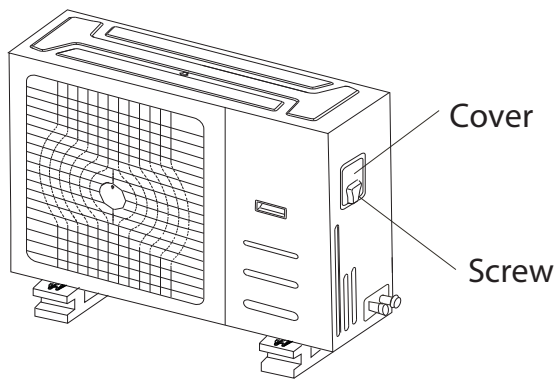

Fig. 8.1
2. Remove the electrical cover of the outdoor unit. If there is no cover on the outdoor unit, disassemble the bolts from the maintenance board, and remove the protection board. (See Fig. 8.1, 8.2)